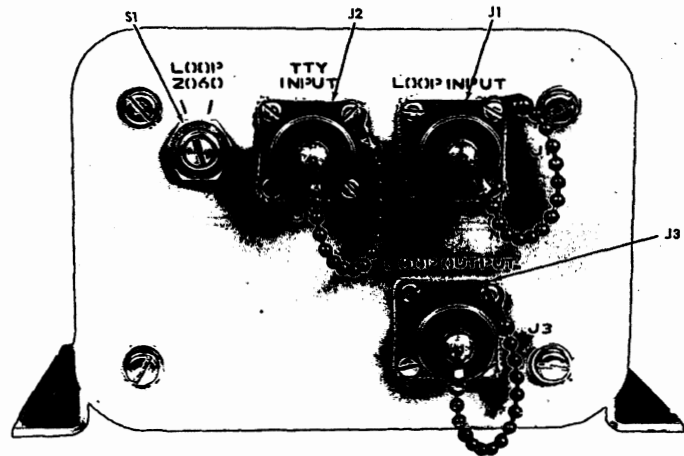

Figure 2-8.—Front View of Loop Adapter Unit.
- (2) Perform the wiring connections indicated in figure 2-8.
- (3) Unlock the patch cord front cover and perform the wiring connections indicated in table 2-8.
- (1) Connect a multimeter as an ammeter in series between the spade lug on the end of the W7 cable signal output leads from J7 (STATION A) and its corresponding terminal on the teletypewriter. Leave the other signal output lead connected to the teletypewriter. (See fig. 2-8.)
- (2) Remove card E-AJV (STATION A) and place the LOOP OUTPUT switch, located on the card, in the 60 position. (This switch may already be in the 60 position.) Replace the card.
- (3) Adjust the LOOP OUTPUT ADJUST potentiometer (STATION A) until a reading of 60 milliamperes is observed on the multimeter.
- (4) Remove card E-AJV (STATION A) and place the LOOP OUTPUT switch in the 20 position. Replace the card.
- (5) Repeat step (3) observing for an indication of 20 milliamperes on the multimeter.